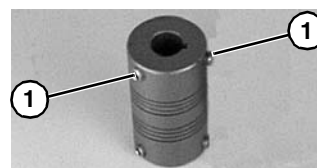

Figure 21
Coupling has two (2) set screws (**Figure 21, item 1**).
Coupling has two (2) set screws (Figure 21, item 1).